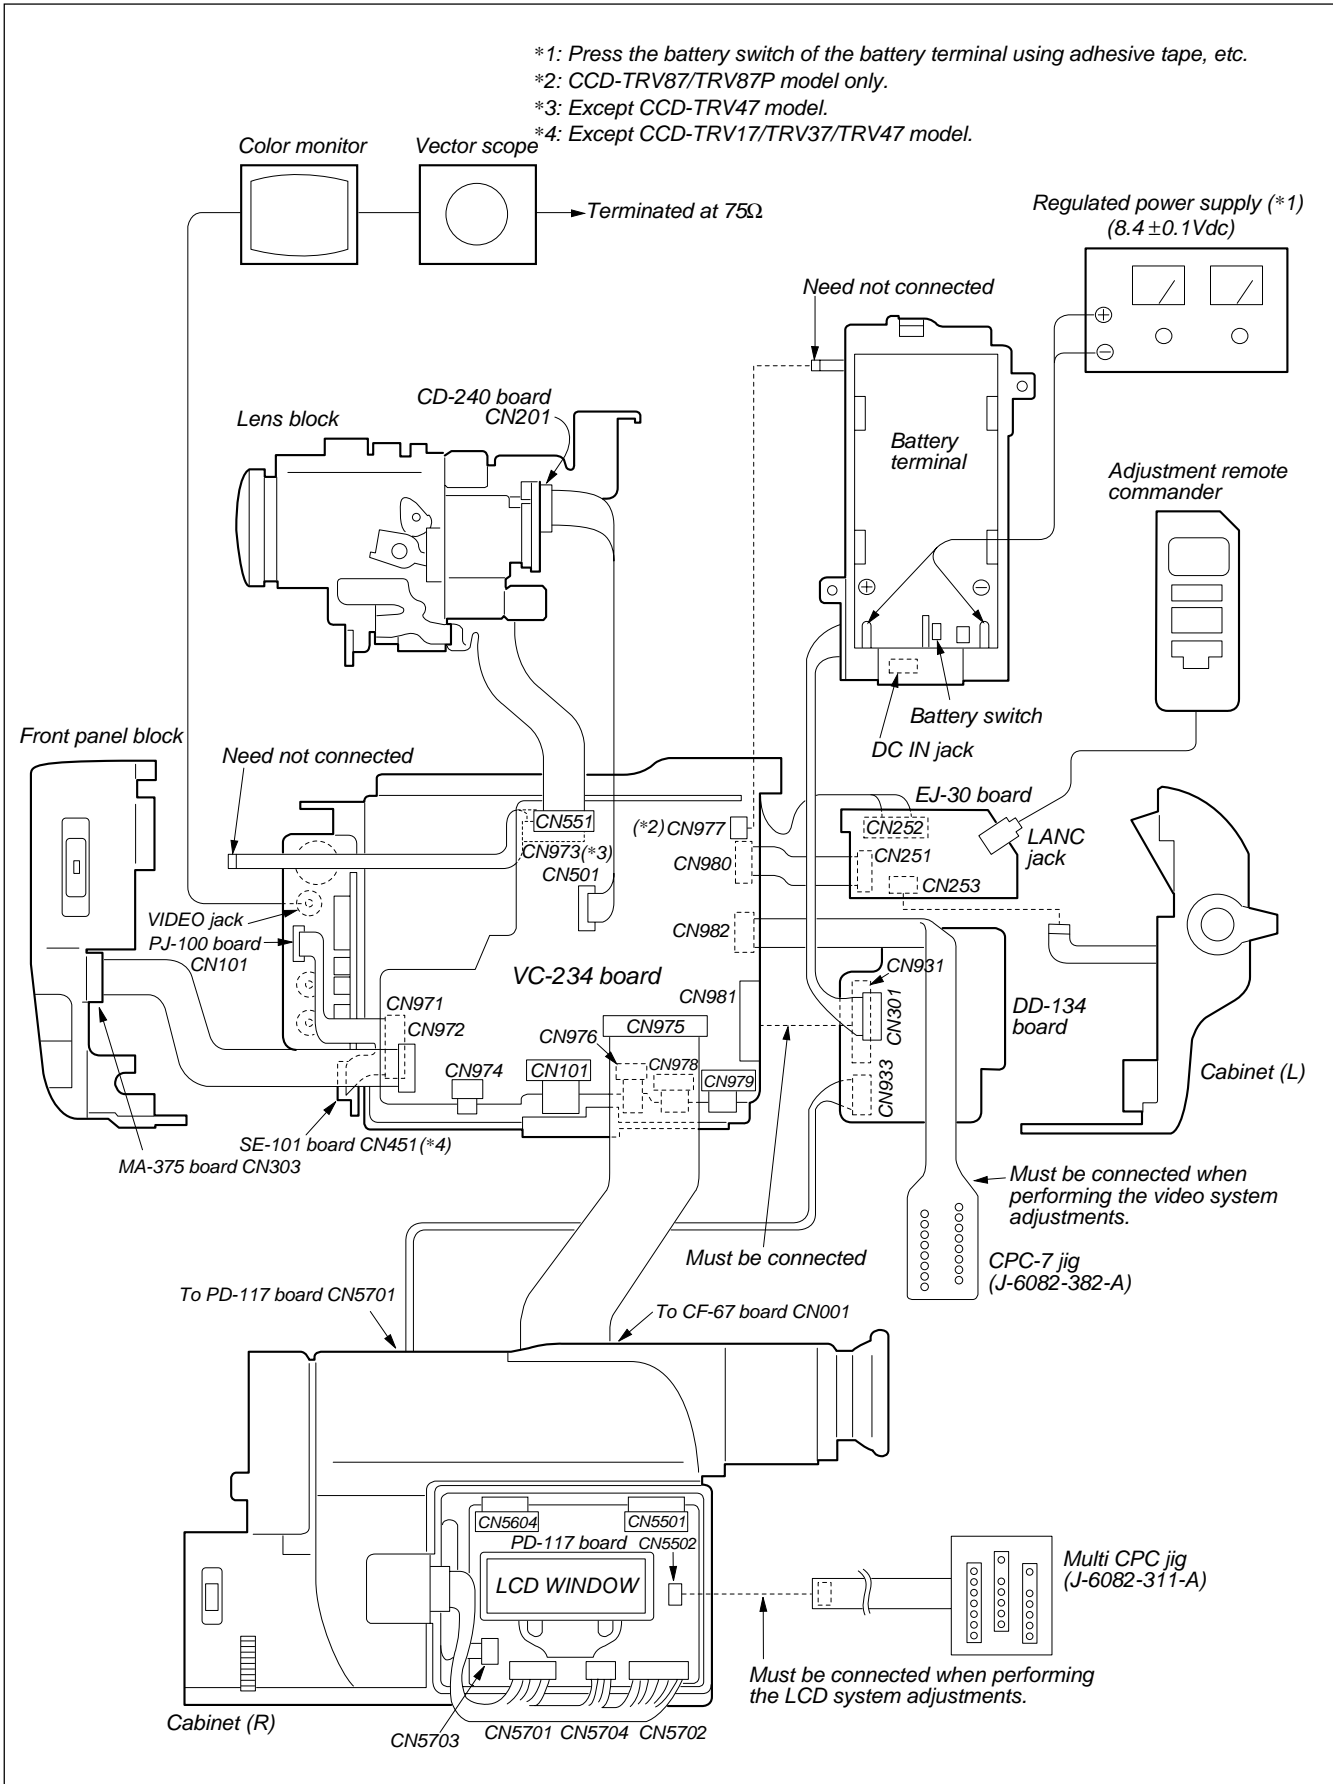

Fig. 5-1-3.
- 1) Connect the equipment for adjustments according to Fig. 5-1-3, 5-1-4.